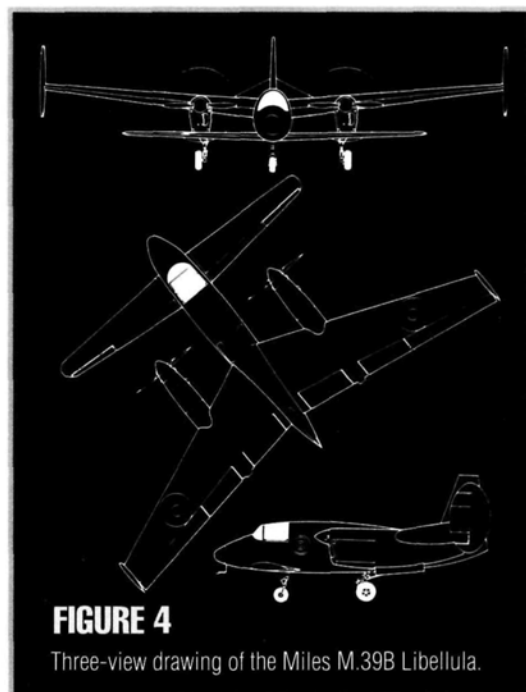

FIGURE 4
• **Miles Libellula (Figure 4).** This was a British wartime design. The twin engines